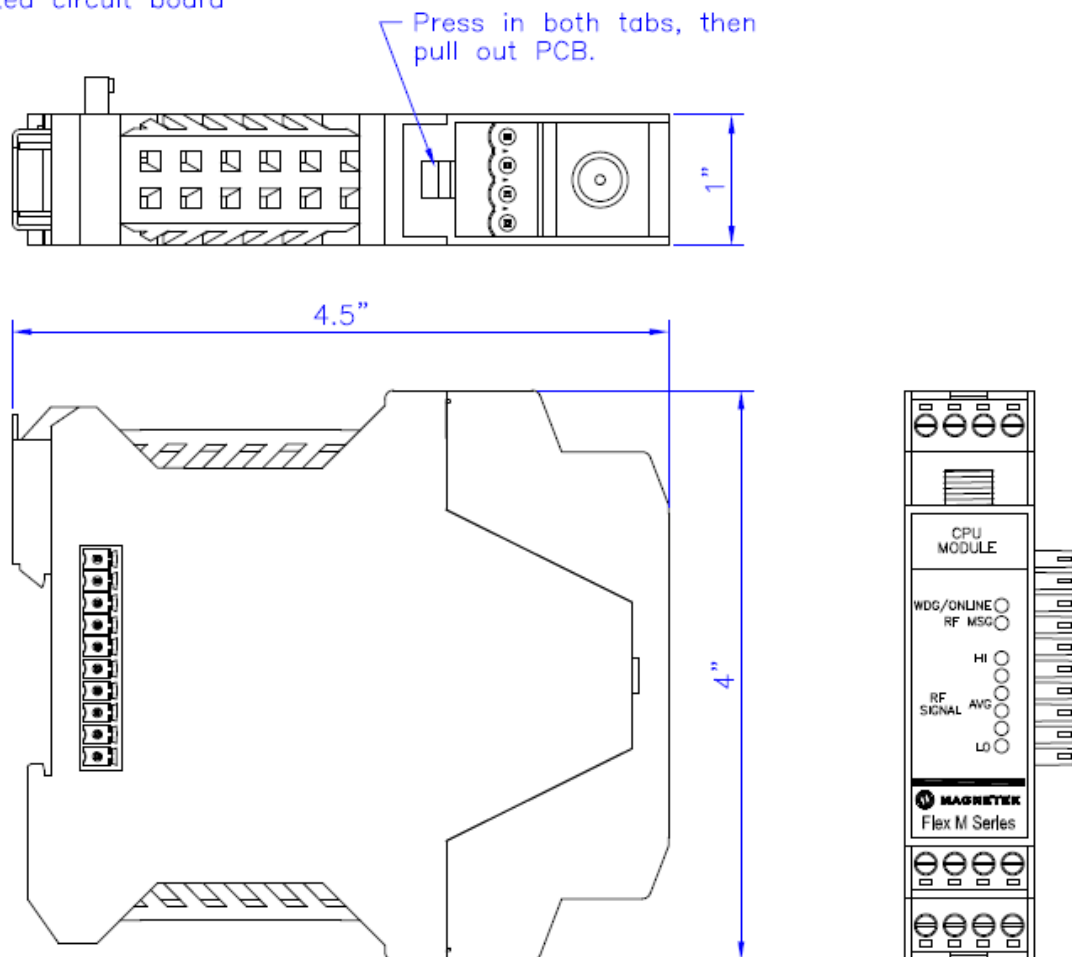

Figure 20: Flex M Housing Removal Detail
4. The PCB from any module can be removed from its housing by pressing in both tabs first (tabs are on the front and back sides of the housing); then the top housing and PCB can be removed from the lower housing (see Figure 20 for details).